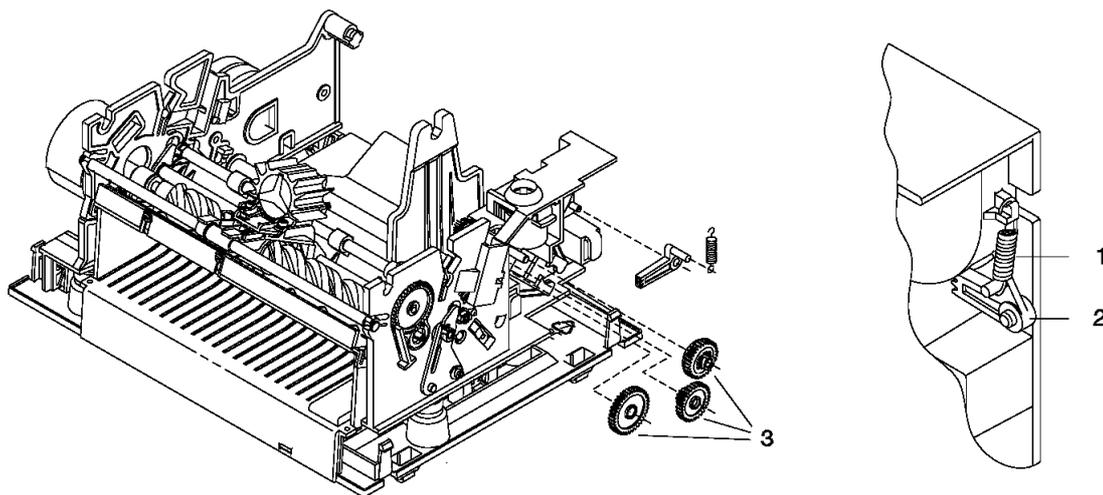

Figure 6-74. JNL Pawl and Drive Gears
1. Connect the pawl spring (1) to the pawl (2) and attach them to the side frame. Connect and attach the pawl spring and pawl as shown in Figure 6-74.